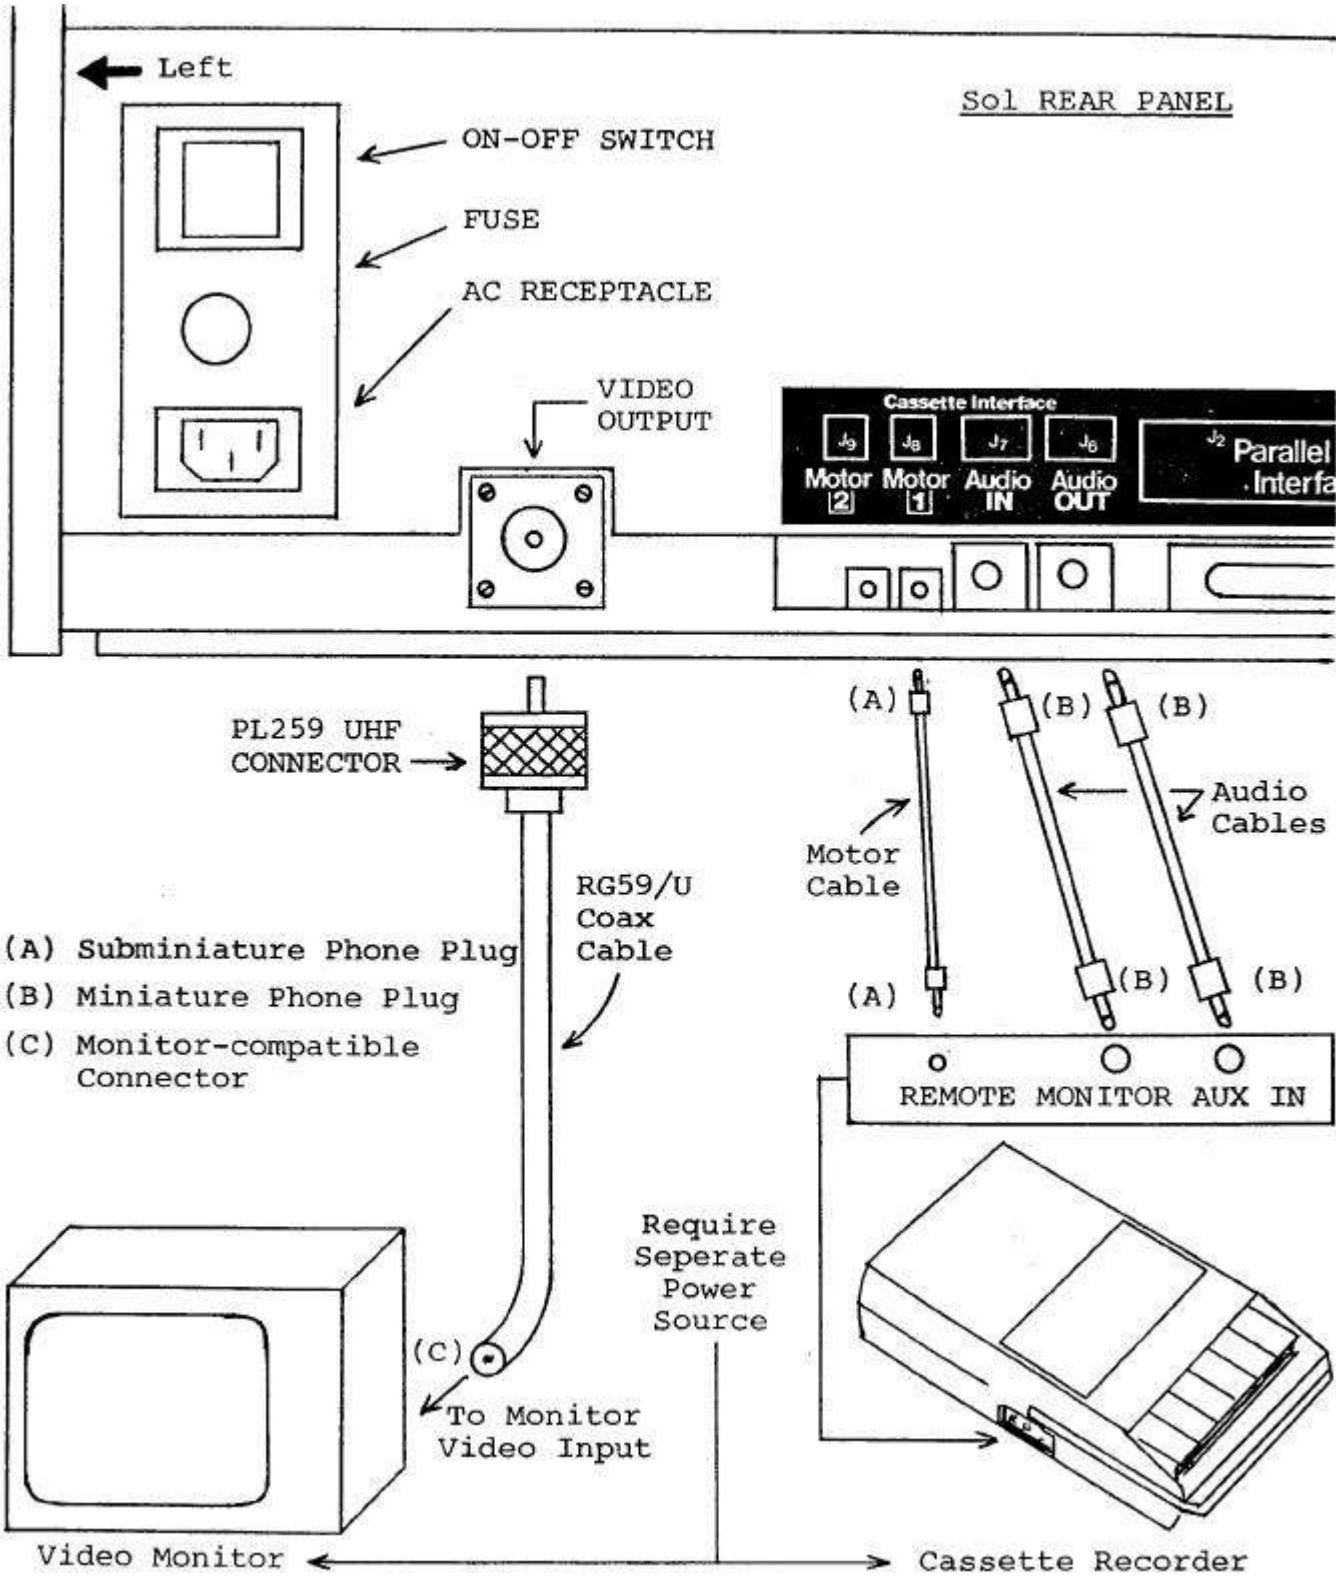

Figure 7-1. Connecting the basic Sol system
ON-OFF Switch (See Figure 7-1)	Connects and disconnects primary power to Sol.
Connect the basic Sol system as follows (refer to Figure 7-1 on Page VII-6):
7.5.1 ON-OFF Switch (See Figure 7-1 on page VII-6.)